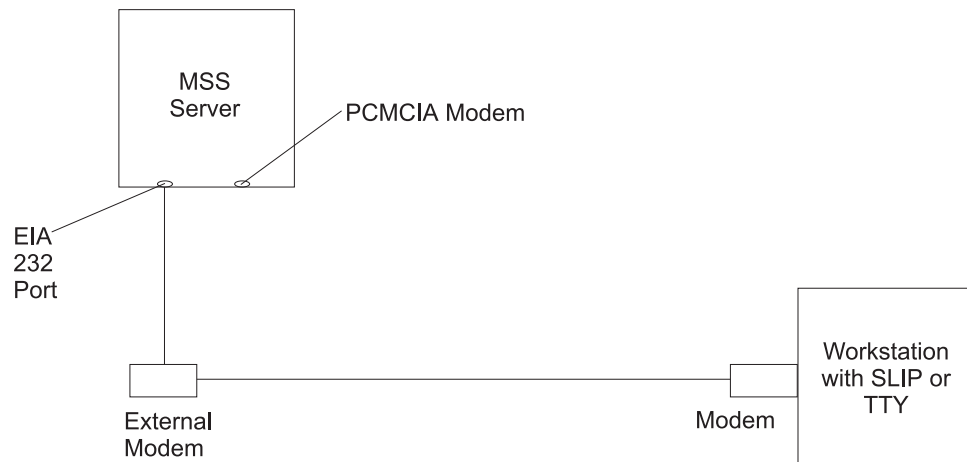

Figure 3-2. Remote Serial Connection to the EIA-232 Port
- A remote connection through a modem attached to the EIA-232 service port (see Figure 3-2 on page 3-2)